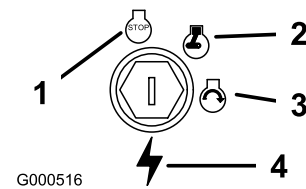

Figure 12
3. Turn the ignition key to Off (Figure 12).